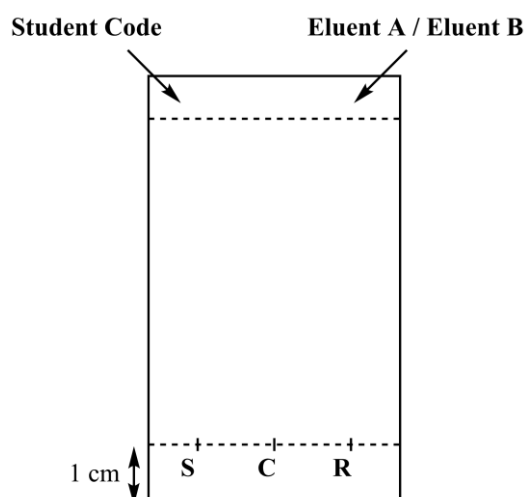

Figure 3. TLC plate preparation
- Prepare your samples: You are provided a sample of 4-nitrobenzaldehyde in an amber glass vial labeled **TLC standard** (referred to as **S** on the TLC plate in Figure 3). You have also kept a small sample of your crude product (vial **C**) and your recrystallized product (vial **R**) in two other amber glass vials. **Add** about 1 mL of ethanol in each of the vials in order to dissolve the samples.
- Prepare your TLC plate: Use a pencil to carefully **draw** the start line (1 cm above the bottom of the plate) and **mark** the positions for the 3 samples. **Label** them **S** (starting material), **C** (crude product) and **R** (recrystallized product), as shown in Figure 3. On the top left of the plate, **write** your **Student Code**. On the top right of the plate, **write** the eluent you use (first **Eluent A**, then **Eluent B**). **Spot** the three samples on the plate, using capillary spotters.